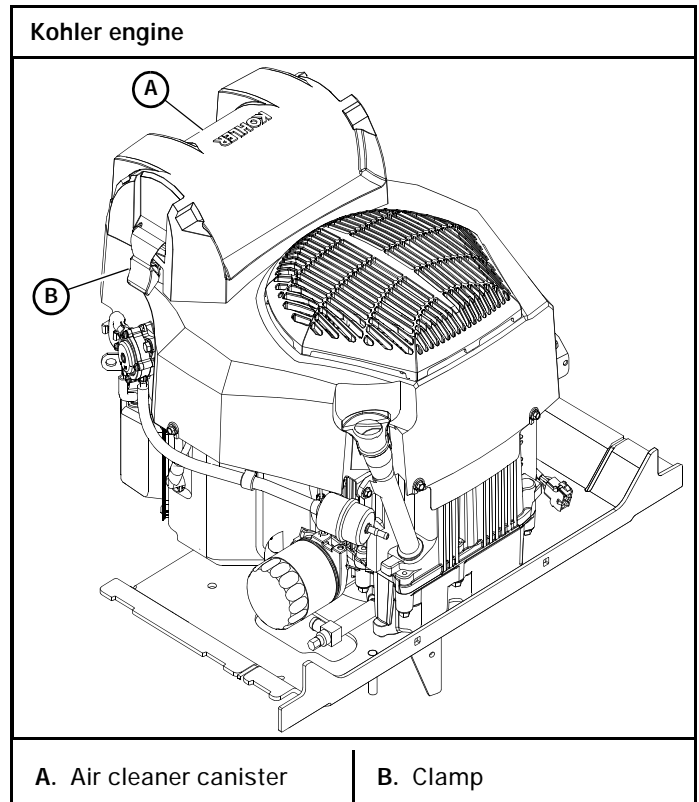

Figure 5-4
A specially designed dry filter is standard equipment on these mowers and supplies clean combustion air to the engine. Figure 5-4
3. Reinstall the top of the canister housing. Make sure it seals all the way around the lower part of the housing, then tighten the clamps. Figure 5-4